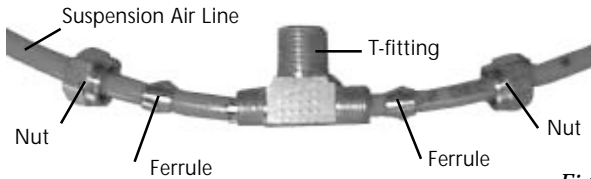

Fig. 4
3. Slide the brass ferrules and nuts onto the air line and insert the T-fitting into the lines. Tighten the compression nuts. (See fig. 4)